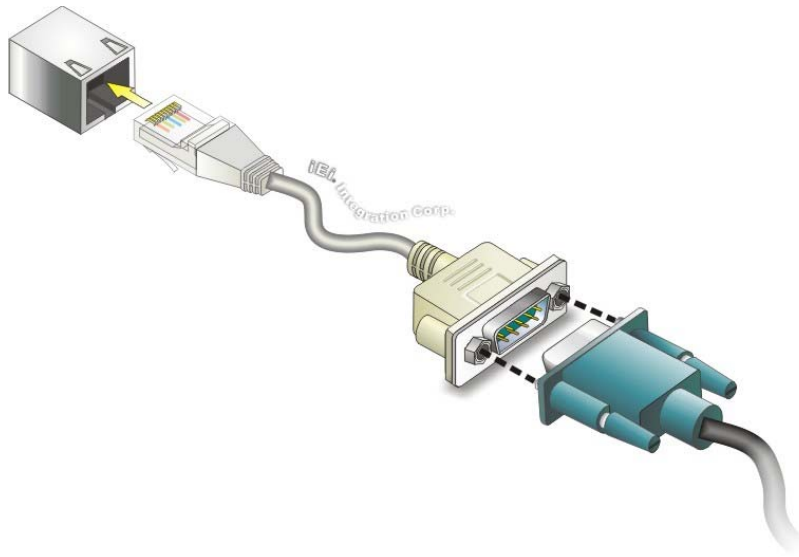

Figure 3-29: RJ-45 RS-422/485 Serial Device Connection
- Step 2:** Insert the RJ-45 connector. Insert the RJ-45 connector on the RJ-45 to DB-9 COM port cable to the RJ-45 RS-422/485 connector on the PPC-5152-D525-E. See **Figure 3-29**.